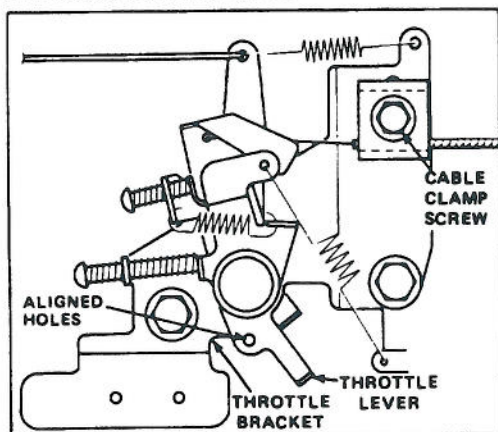

Figure 15
4. Loosen cable clamp screw until throttle cable slides (Fig. 15). Align holes in throttle lever and throttle bracket. Pull throttle cable slightly to remove any slack and tighten cable clamp screw to lock adjustment in place.